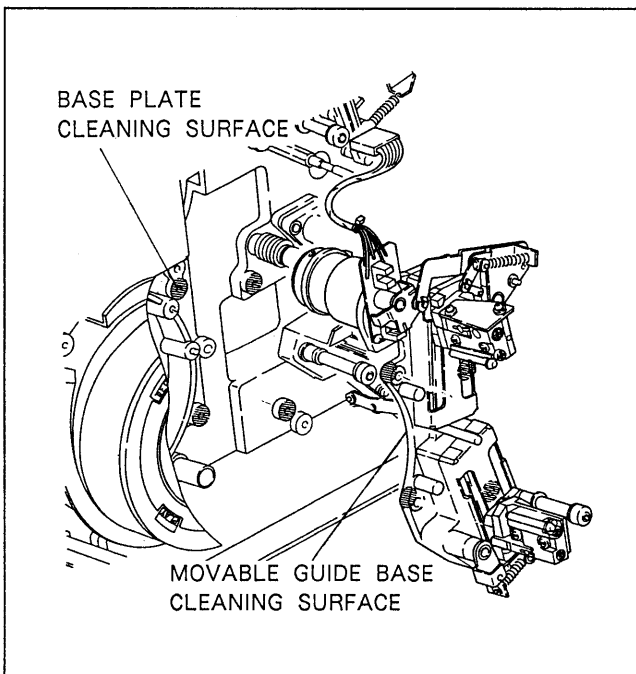

Fig. 6-4-6. Mounting Surface Cleaning
7. Wipe the mounting surfaces of the base plate and movable guide base shown in Fig. 6-4-6 with cleaning cloth (cloth or gauze).